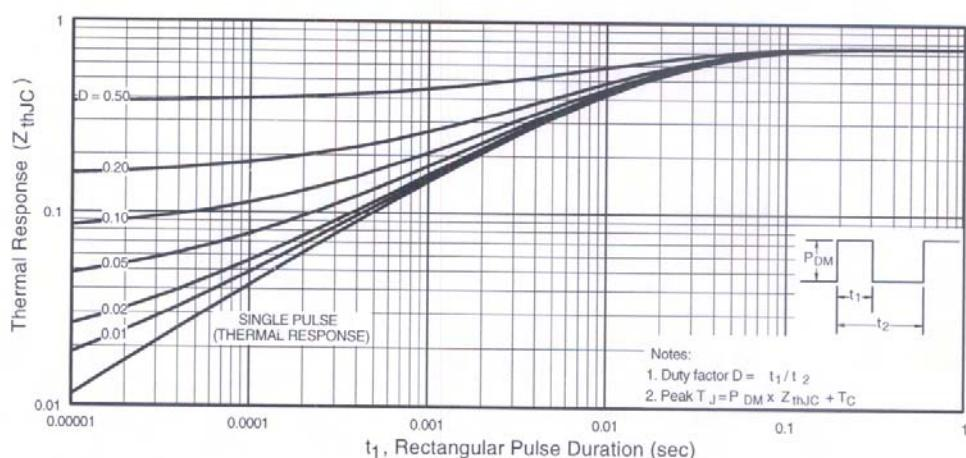

Fig 11. Maximum Effective Transient Thermal Impedance, Junction-to-Case
① Repetitive rating; pulse width limited by max. junction temperature. (See fig. 11)
④ Pulse width $\leq 300\mu\text{s}$; duty cycle $\leq 2\%$.
② Starting $T_J = 25^\circ\text{C}$, $L = 2.4\text{mH}$
⑤ Uses IRF3415 data and test conditions